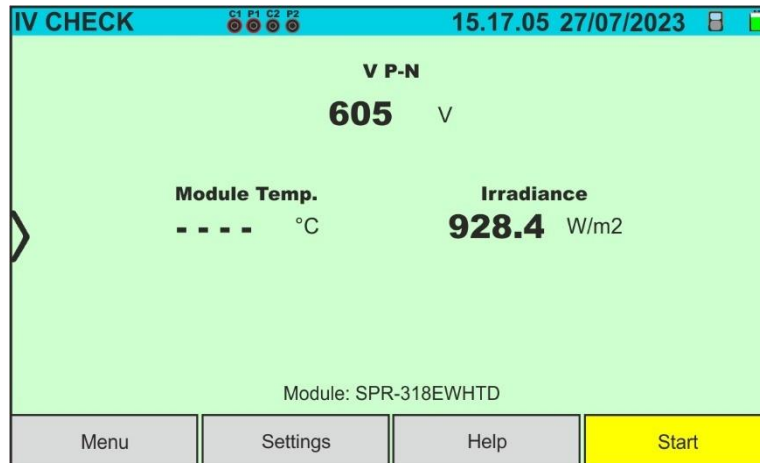

Fig. 65: Initial IVCK test screen without remote unit on Monofacial modules
4. In the case of **Monofacial** modules, the Fig. 65 screen is present on the display. The following parameters are shown: